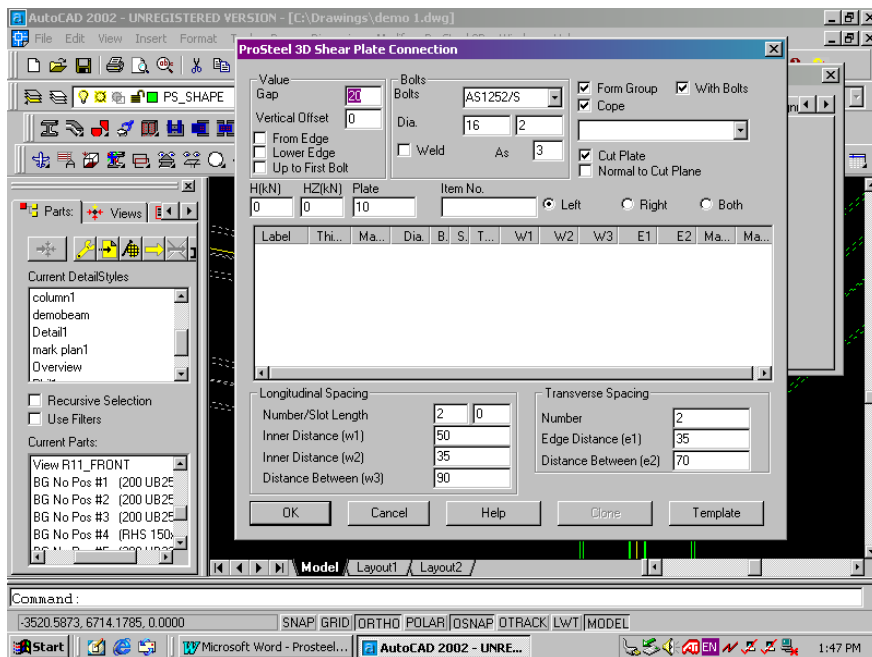

Fig 7
3. We will look at the dialog box for a shear plate first as per Fig 7. The first value is the GAP value, which is the value that one beam is away from the other beams flange. The vertical offset is just what it says and the default is on centre. The tick boxes under ie. “From Edge” relates directly to this offset.